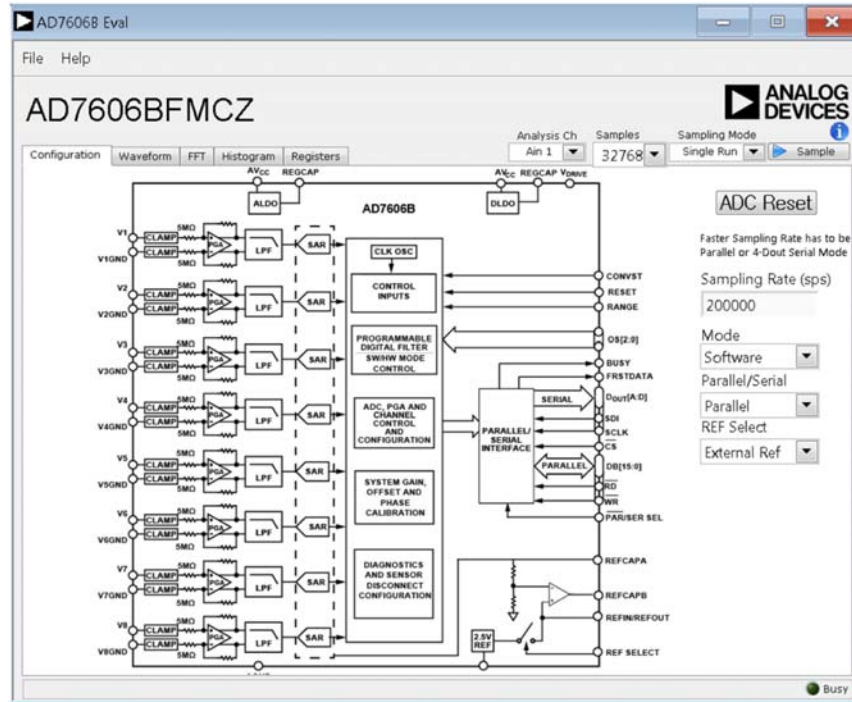

Figure 12. EVAL-AD7606BFMCZ Evaluation Software Main Window
1. From the **Start** menu, go to **Programs** < **Analog Devices** < **AD7606B Eval**. The main window of the software then displays (see Figure 12).
The main window of the software displays the controls and analysis indicators of the EVAL-AD7606BFMCZ evaluation software, allowing the user to control the operation of the software and the capturing and displaying of data from the ADC. When the software launches, the main EVAL-AD7606BFMCZ evaluation software window opens (see Figure 12).
The main EVAL-AD7606BFMCZ evaluation software window shown in Figure 12 has the following features:
The menu bar (see Figure 12) consists of the **File** and **Help** menus.
Use the **Sampling Rate (sps)** field in Figure 12 to increase the rate of the converted start pulses to the AD7606B. This control accepts values from 3052 SPS to 800,000 SPS on the AD7606B. To achieve 800 kSPS, use the parallel interface in both hardware and software mode. When using the serial interface, to achieve 800 kSPS, users must select software mode, and DOUT_FORMAT must be configured as four lines in the CONFIG register within the **Registers** tab.
The **Parallel/Serial** dropdown menu in Figure 12 allows users to select between a serial or parallel interface. When changing the interface, the software automatically resets the AD7606B.
The **REF Select** dropdown menu in Figure 12 allows users to select between an internal and an external reference. When changing the interface, the software automatically resets the AD7606B. To use the external reference, R1 must be populated on the PCB.
The **Mode** dropdown menu in Figure 12 allows users to select between hardware or software mode. If software mode is selected, the software sets all oversampling pins high, and the **Register** tab enables granting access to the whole memory map. If hardware mode is selected, there is no memory map available. Therefore, the range and oversampling modes are only selected through the corresponding pins. To configure these pins, **Range** and **Oversampling mode** dropdown menus enable in hardware mode.
The user can select the number of samples captured from the **Samples** dropdown menu in Figure 12. The default number of samples is 32768. However, the number of samples can be changed through the dropdown menu.